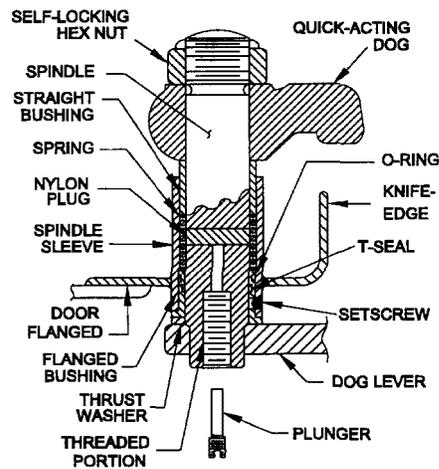
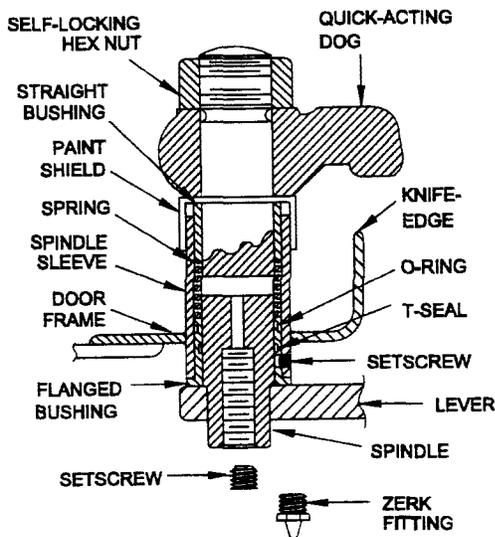

Figure 2-17A. Quick-Acting Door Dog Assembly (Cross Section View) Modified by MACHALT 167-31004 (ECP-444)
Figure 2-17B. Quick-Acting Door Dog Assembly (Cross Section View) Modified by MACHALT 167-31010 (ECP-526)
**2-1.14 SINTERED BRONZE BUSHINGS WITH ELISHA TECHNOLOGIES EDC 1270 EPL GREASE AND CRES PAINT SHIELD (STEEL DOORS ONLY).** MACHALT 167-31010 (ECP-526), applicable to exterior and well deck doors, and other doors located in high humidity areas, replaces the existing Oilite bushings or self-lubricated bushings with sintered bronze bushings impregnated with Elisha Technologies EDC 1270 grease, CRES helical springs, and self-locking hex nuts. This MACHALT also removes the nylon plug from the spindle (where self-lubricated bushings are installed) and replaces the packing plunger with a setscrew plug. A CRES paint shield is also installed over the external end of the sleeve between the dog and straight bushing. See figure 2-17A and figure 2-17B. In the absence of a MACHALT installation label plate, the presence of a paint shield on the exterior end of the sleeve indicates that MACHALT 167-31010 (ECP-526) has been installed. The void space inside the sleeve is filled with Elisha Technologies EDC 1270 EPL grease, which is injected through a lubrication fitting temporarily installed in the packing plunger hole. Once lubricated, the lubrication fitting is